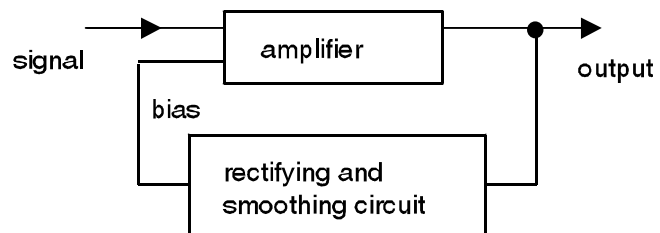

Fig 8.2 Automatic gain control
2. By using an amplifier the gain of which varies with bias and controlling it with a rectified and smoothed sample of the output signal. This is called automatic gain control (AGC). It requires special amplifiers and would not work for example with an operational amplifier. Fig 8.2 shows the general idea.